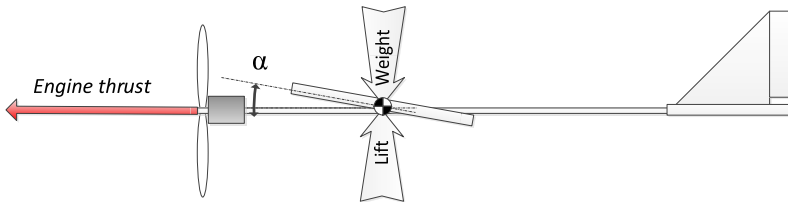

Fig 3. Install the wing with positive incidence.
2. Install the wing with positive angle of attack (Fig 3). GWS Slow Stick takes this approach. Its leading edge wing support is higher than the trailing edge support to have the angle of attack pre-installed. This solution has the same problem of the solution 1. It's not good for flying inverted. I had to push the elevator stick all the way to barely keep my Slow Stick flying level.